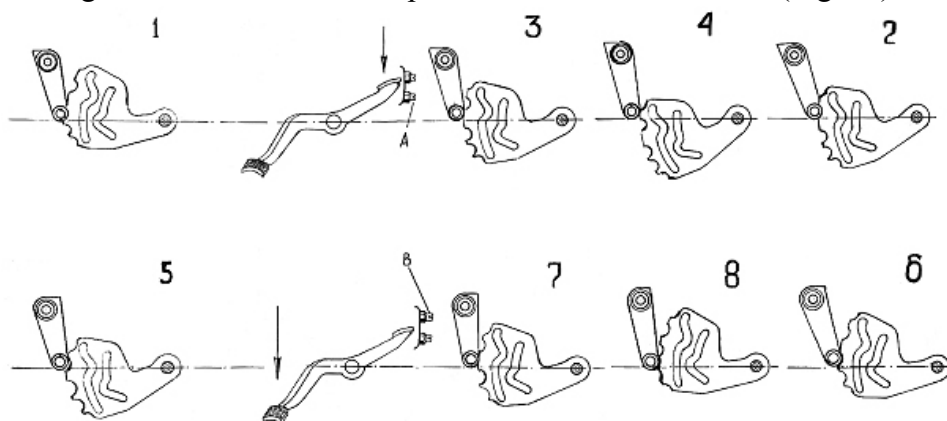

Fig.63
After full disassembly of the gearbox or repair of the gearshift mechanism, adjust the latter by turning the clutch shaft with a special crank handle 346-403 (Fig. 63).
To adjust proceed as follows (Fig. 63):
To adjust the lower stop “A” limiting the turn of the quadrant when up-shifting (acceleration), proceed as follows (see Fig. 63):
- Depressing the upper arm of the pedal, engage the quadrant in the position of II gear, the retaining roller should fully get into the flute on the quadrant and lock it in the Pos. 1 (Fig. 63) by means of the spring (Fig. 63).
- When the lower stop is adjusted correctly the quadrant turns to required angle and locks again in Pos. 2 (Fig. 63)
When the stop is maladjusted the roller after turn would not get into flute, Pos. 3 and 4 (Fig. 63). It can be easily found by turning the projecting end of the quadrant this or that way using 10-mm wrench.
- Depressing the lower arm of the pedal, shift the quadrant from III gear to II gear, Pos. 5 (Fig. 63)
- Check the quadrant shaft for soundness of locking of the roller in the flute of the quadrant, using 10-mm wrench. When it is not locked properly, the stop is maladjusted, Pos. 7 and 8 (Fig. 63)